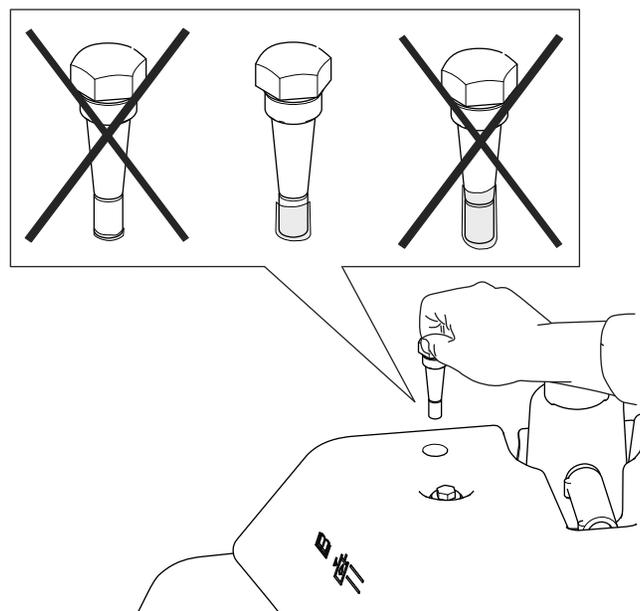

Figure 55
4. Remove the dipstick and check the fluid level. If it is between the marks on the dipstick, the level is sufficient. If the fluid level is not between the marks, adjust the fluid level accordingly (Figure 55).